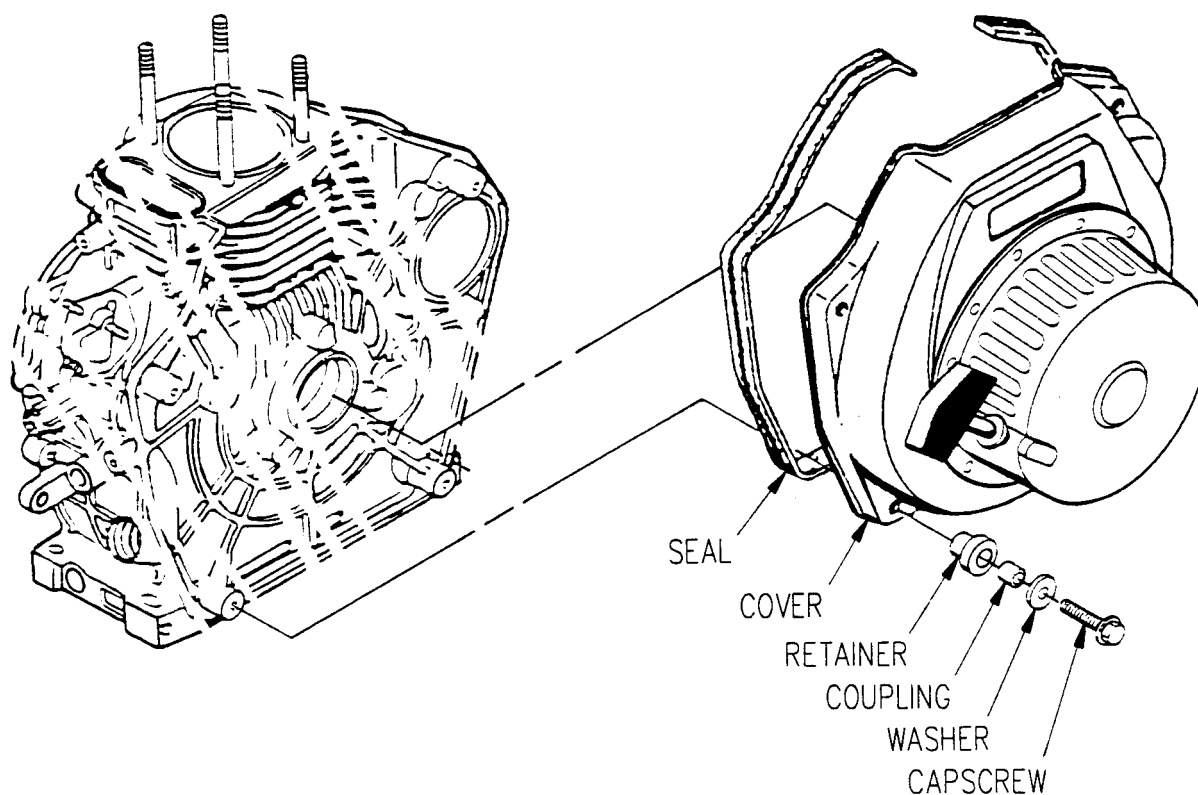

Figure 4-55. Cooling Fan Cover
- (1) Shut down generator set.
- (2) Remove air cleaner cover, refer to paragraph 4.12.2.a.
- (3) Remove capscrews (Figure 4-55), washers, couplings, rubber retainers, cooling fan cover with recoil starter assembly, and seal from engine.
- (4) If necessary, remove recoil starter assembly, refer to paragraph 4.54.b.
- (1) If removed, install recoil starter assembly, refer to paragraph 4.54.c.
- (2) Install seal (Figure 4-55) and cooling fan cover on engine with rubber retainers, couplings, washers, and capscrews.
- (3) Install air cleaner cover, refer to paragraph 4.12.2.c.